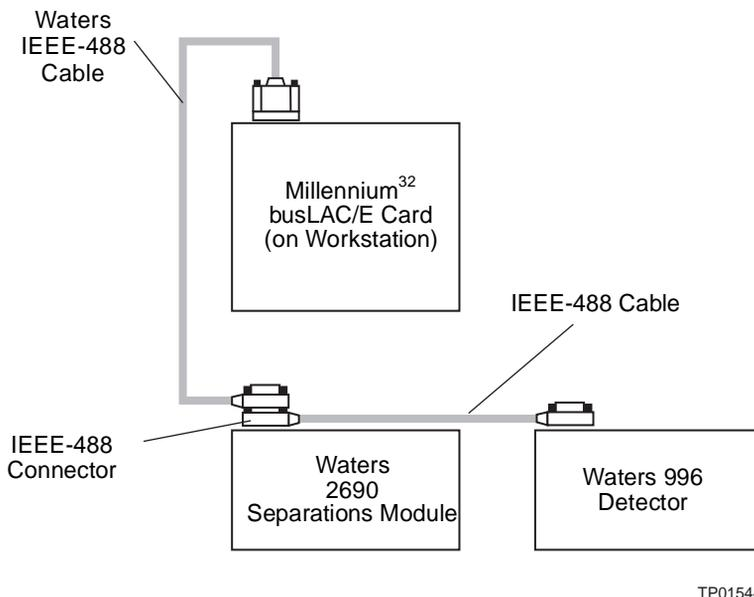

Figure 1-3 Example of IEEE-488 Cable Connections
1. Connect one end of the IEEE-488 cable to the IEEE-488 receptacle on the rear panel of the 996 detector. Connect the other end of the cable (stackable connector for daisy-chaining additional instruments) to the IEEE-488 connector on any of the other instruments in your chromatographic system (Figure 1-3).